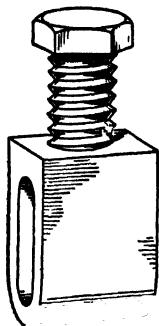

FIG. 17-22. Connector used in place of served tap for service entrance connection. (Courtesy Joslyn Mfg. and Supply Company.)
**Connectors.** The clamp connector is easily applied. Covering is removed, and the wires are scraped clean. The two wires are then inserted in the clamp and the screws drawn up tight. Figures 17-22 and 17-23 illustrate two types of connectors.